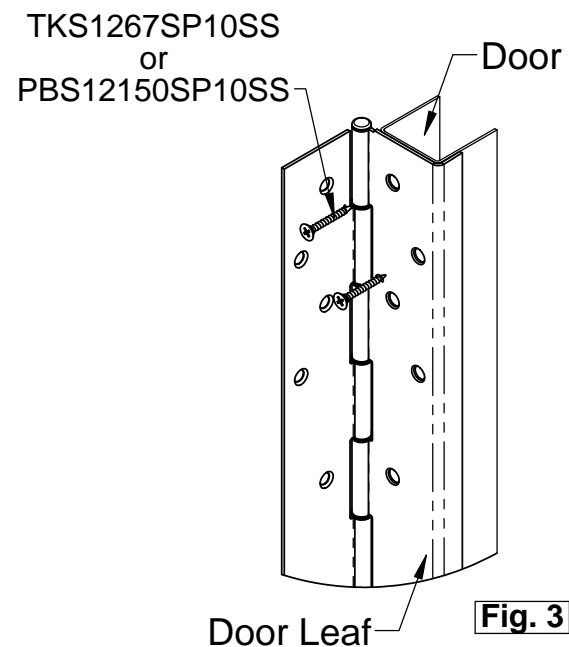

Fig. 3
1. Attaching hinge to door: (Fig. 3)